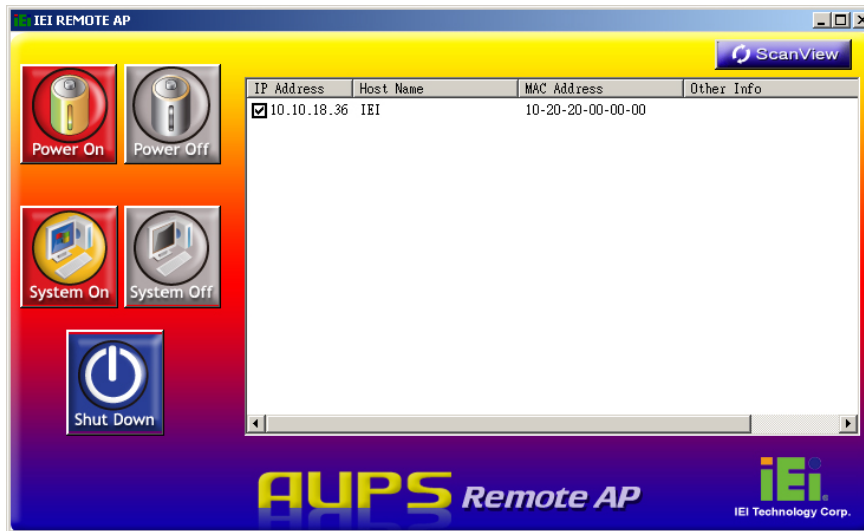

Figure 8-16: IEI REMOTE AP
- Step 3:** The IEI REMOTE AP tool appears (**Figure 8-16**). All the eKINO-945GSE panel PCs in the same subnet with this remote computer are shown in the list on the right. Click the function buttons on the left to control the eKINO-945GSE.